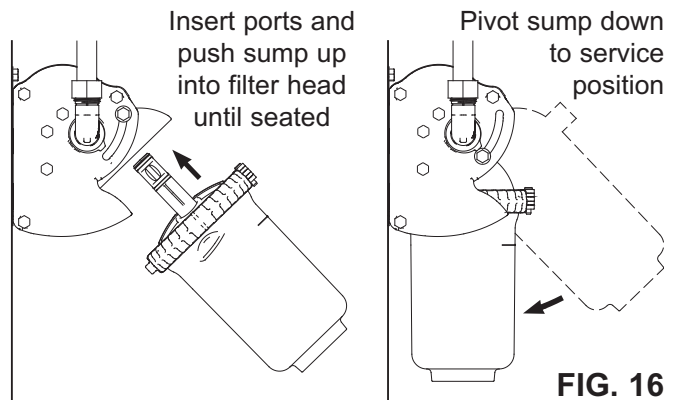

FIG. 16
NOTE: To avoid unintended water flow from the filter head, do not pivot filter head down to the service position without the sump and replacement filter cartridge in place, as shown in Figure 16.
10. Insert the sump assembly into the head by guiding the filter ports into the corresponding receptacles in the head and pushing the sump upward until it stops (See Fig. 16).